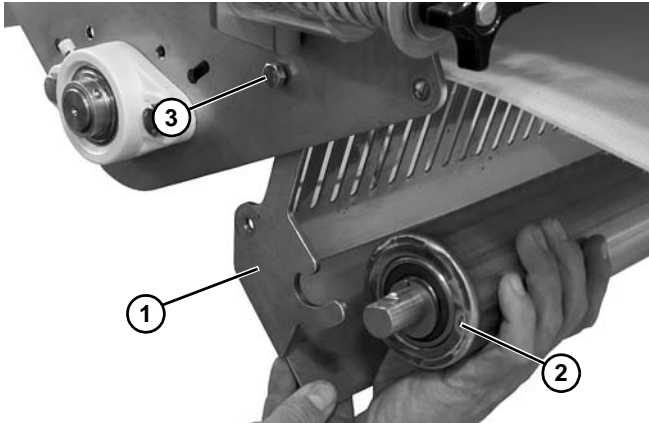

Figure 55
10. Swing idler guard assembly (Figure 55, item 1) down. Remove the idler pulley (Figure 55, item 2).
11. Remove screw (Figure 55, item 3) from each side of the center drive. Remove the idler guard assembly (Figure 55, item 1).